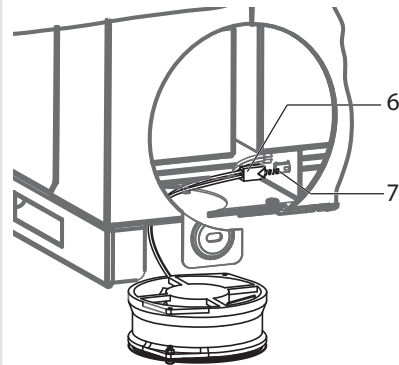

Figure 44: Disconnect the fan's plug
- 4. Carefully disconnect the plug connector for the dismantled fan from inside the housing (see Figure 44).